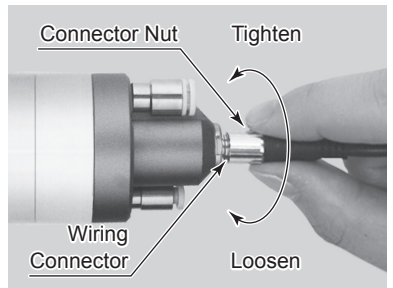

Fig. 18
- (3) Tighten the Connector Nut in a clockwise direction (Fig. 18).